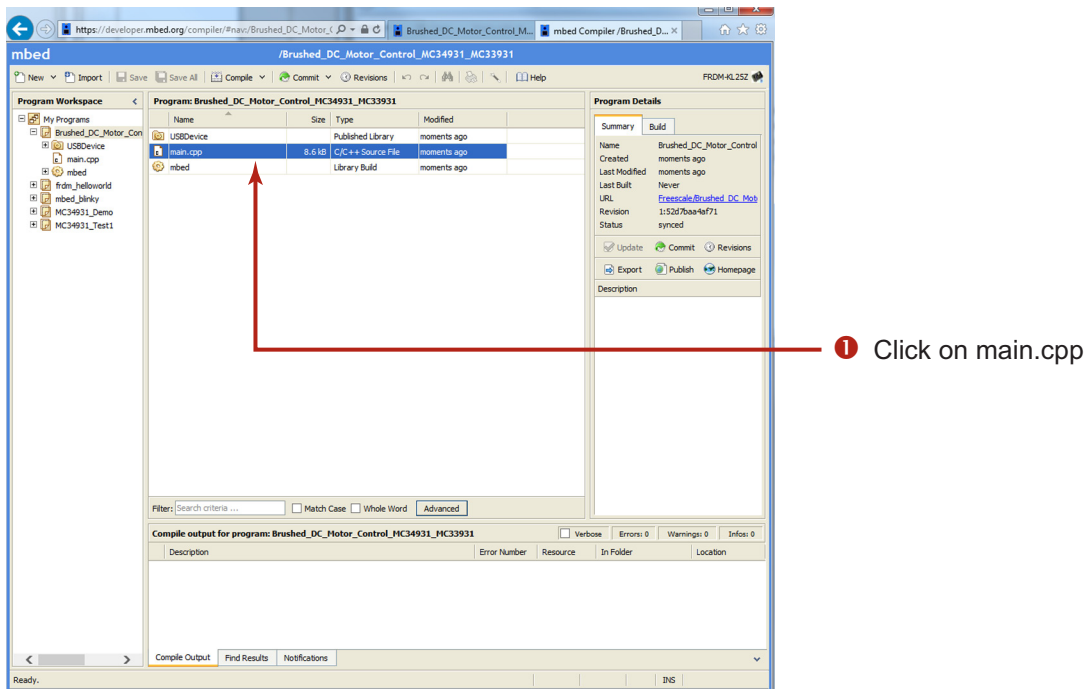

Figure 18. mbed Compiler Select Screen
- When the import completes, the mbed compiler screen should look like Figure 18. Click on the **main.cpp** item.